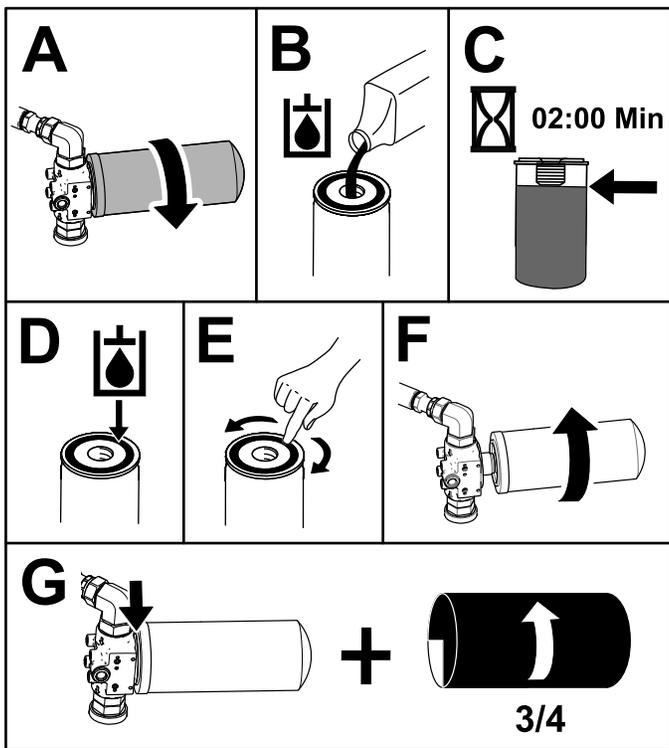

Figure 82
5. Place a drain pan under the front filter and replace the filter (Figure 82).